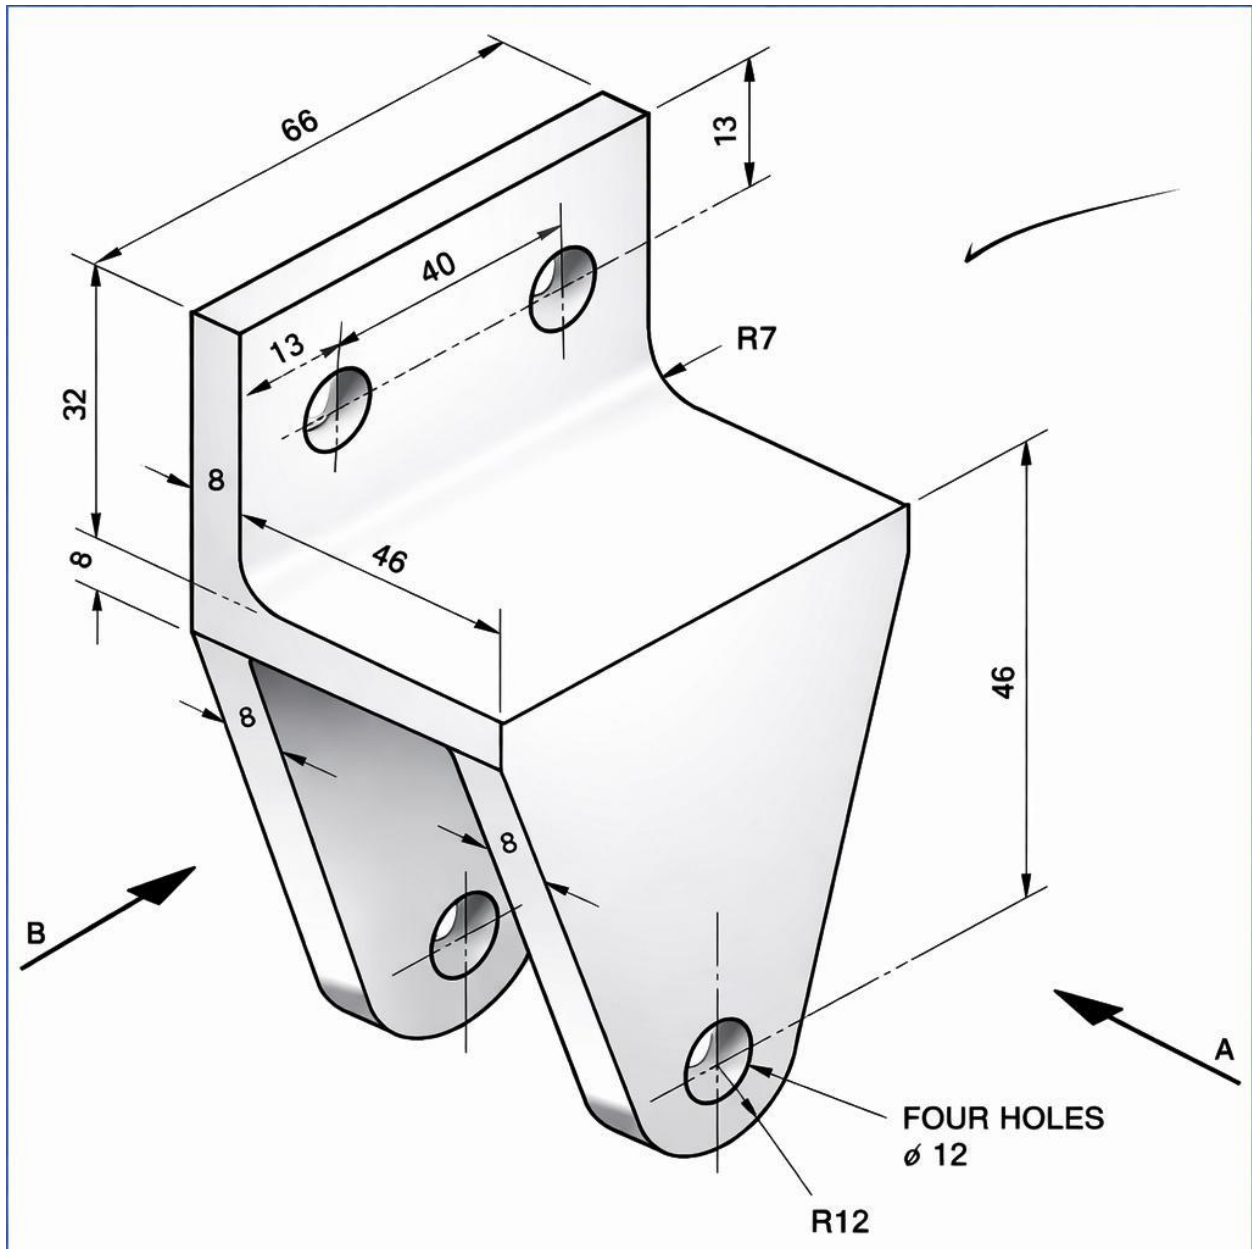

Figure 2
15. The **Figure 2** below shows a pictorial view of a spring hanger braker, using third angle projection; draw the following views, full scale size.